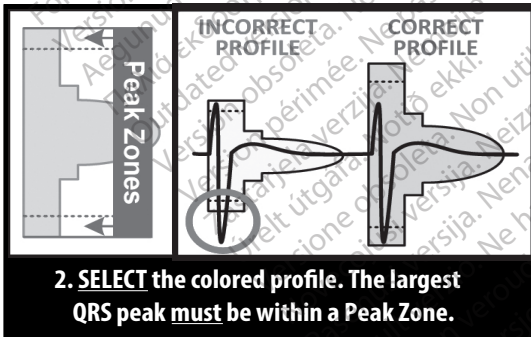

Figure 3. Selecting the Colored Profile
- Select** the colored profile from the Patient Screening Tool that best matches the amplitude of the QRS (Figure 3 Selecting the Colored Profile on page 20). For biphasic or notched signals, the larger peak should be used to determine the appropriate colored profile. The QRS peak must fall within the window bounded by the dotted line and the peak of the colored profile.